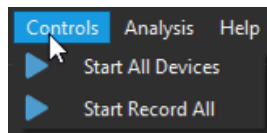

Figure 3.5: Controls menu
2. The **Controls** option (Fig. 3.5) is used to simultaneously start all the channels in multiple individual modules (such as *Acquisition Console & Light Source* modules).